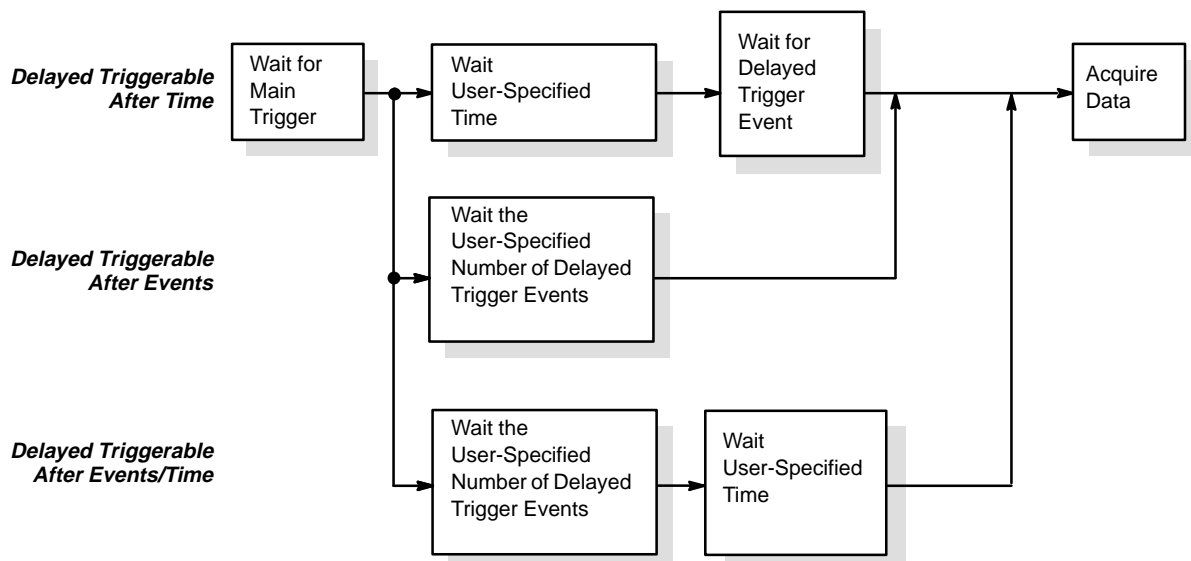

Figure 3-9: Delayed Triggerable
*Delayed triggerable* looks for a main trigger and then, depending on the type of delayed trigger selected, makes one of the three types of delayed triggerable mode acquisitions listed below (see Figure 3-9).